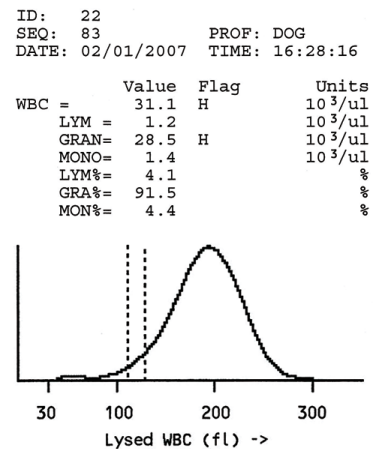

Figure 5.3
- The histogram and data in Figure 5.3 are representative of a chronic inflammatory response. In both cases the granulocytes make up greater than 90% of the WBC population. WBC analyses with single modes and fixed thresholds are placed into one of three categories. When this occurs, the *i*-button becomes active. Additional information may be obtained by either touching the *i*-button on the touch screen or reviewing the printed histogram report. Three categories of abnormal unimodal histogram are outlined below.